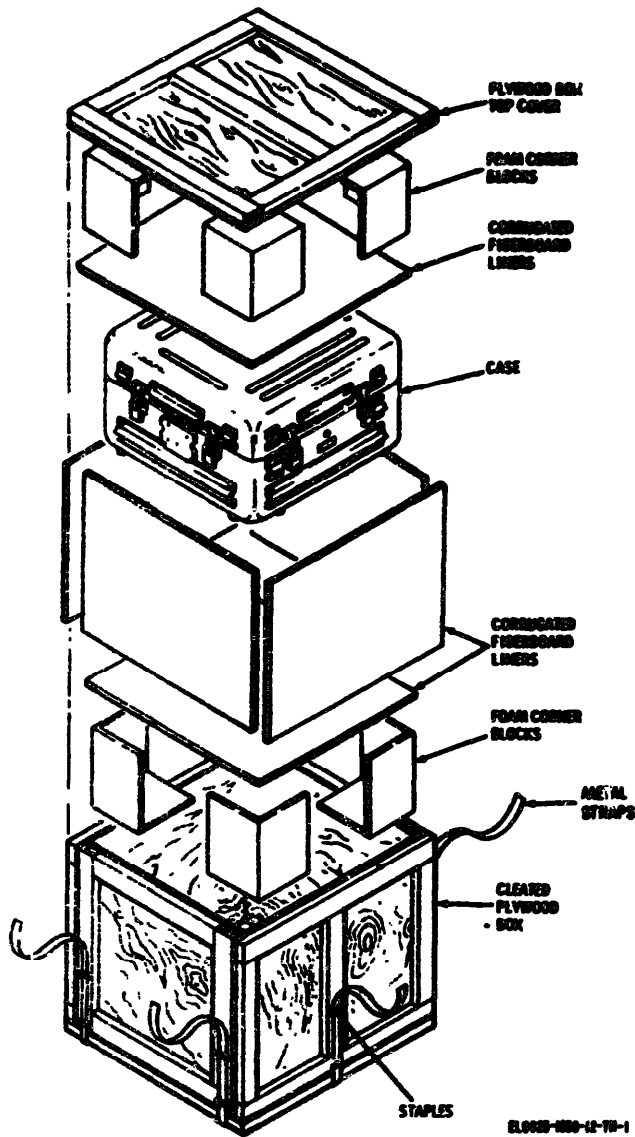

Figure 2-1. Control, Test Set C-8495/APS-94D and Interface Test, Electronic Circuit Plug-In Unit TS-8976/APS-94D, typical packaging.
(figs. 2-1 and 2-2)
a. Packaging Data. When packed for shipment or limited storage, each unit of Test Set Groups, Radar OQ-64(V)1/APS-94D and OQ-64(V)2/APS-94D is packed in a separate crate. Each unit is packaged in a separate cleated plywood shipping crate that is reinforced with metal strapping. The complete shipping crate dimensions, weight and volume of each and each packaged unit are listed in table 2-1. A typical shipping crate with its contents, for the control unit and the module test set, is shown in figure 2-1. A typical shipping